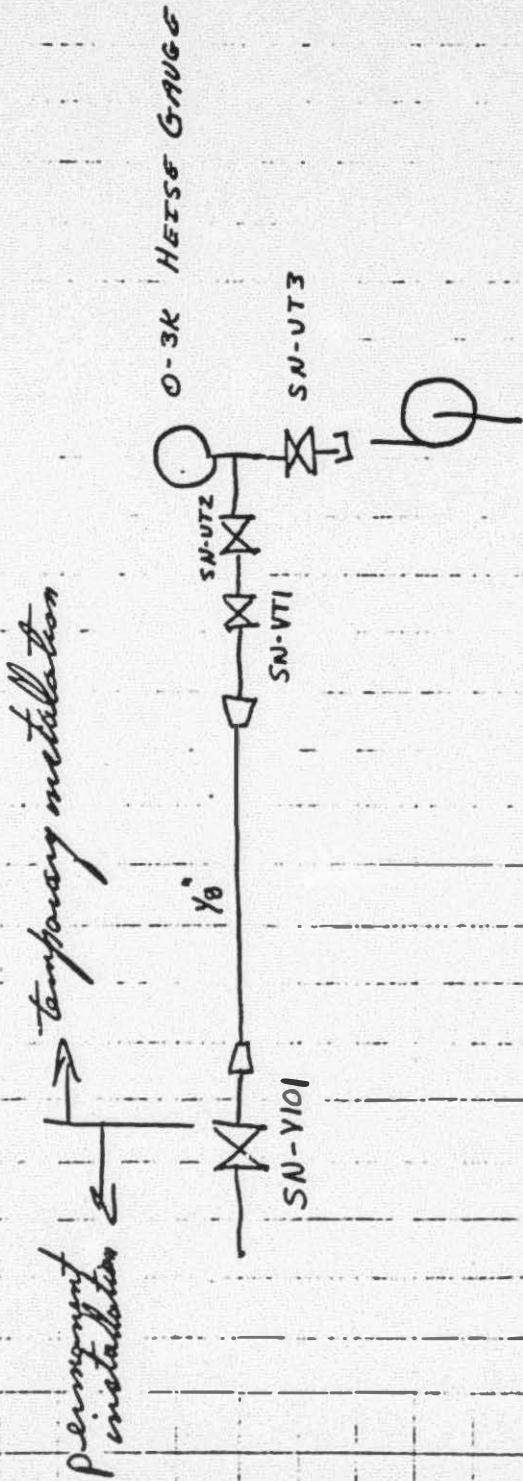

FIGURE 1
3. With SN-VT3 closed, hook up Ascroft hand pump to SN-VT3. (See figure 1.)